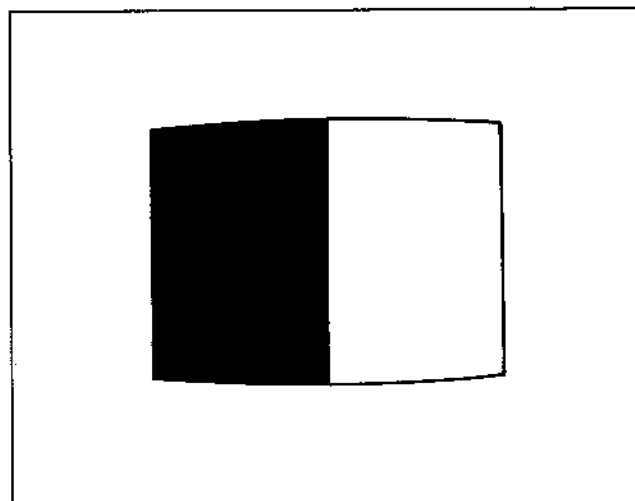

Fig. 4-4-29. Test signal adjustment
- (1) Turn on the TEST SIG switch.
- (2) Adjust RV24 so that the monitor TV picture becomes as shown in Fig. 4-4-29.